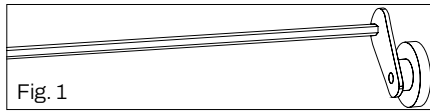

Fig. 1
Step 1 Activate the mechanism to manually move the bed using the provided rod (Fig. 1).